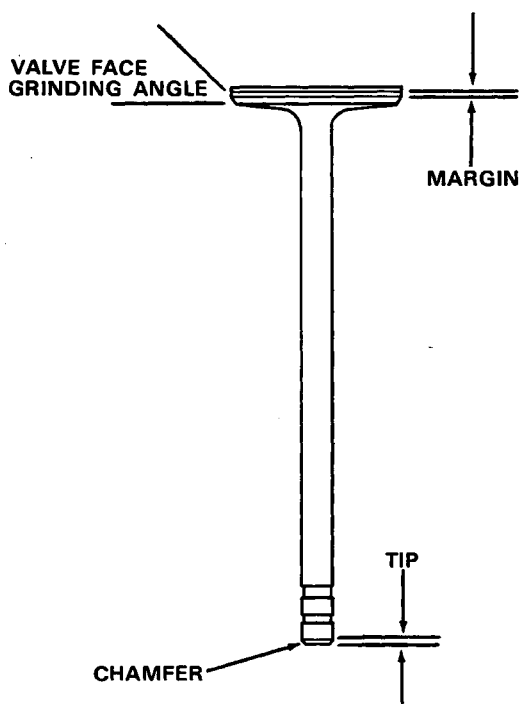

**Figure 20**
**NOTE:** Small amounts of very fine pitting, Figure 20, may be found on the surfaces of the valves faces and seats after the valves are cleaned. These are normal and will not affect engine performance. This fine pitting is caused by a normal oxidation process and can happen on any engine during the run-in period. It is not necessary to grind valves or seats if this fine pitting is found as the pitting will generally reoccur after the engine is run for a few hours.